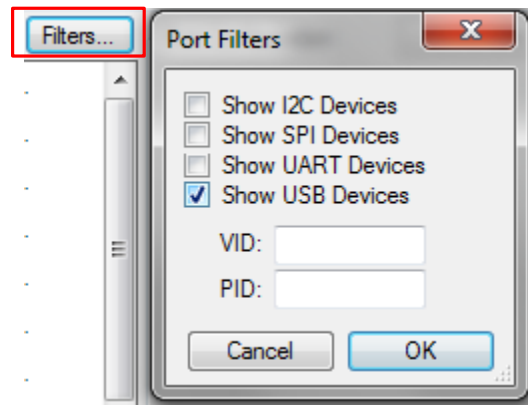

Figure 9: Port Filters Options Window - Bootloader Host
- Enable Show USB devices in the Port Filters options windows as shown in the Figure 9.